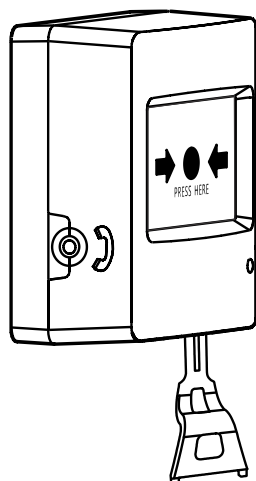

Fig. 9
3. Insert the key from the bottom as shown in Fig. 9 to reset the operation panel to its initial position.